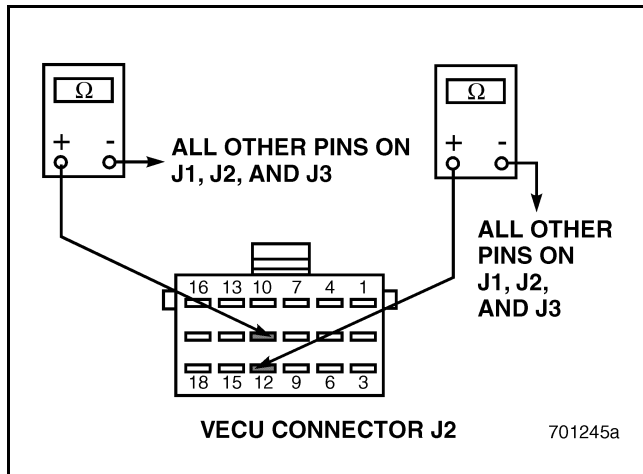

Figure 450
5. Check for continuity in the circuit that showed continuity (connector J2 pin 11 or 12) in Test 39 (see Figure 450).